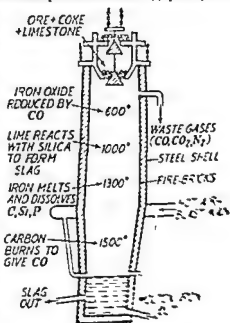

FIG. 58.1—Blast furnace for iron and steel.
(3) **Smelting in a Blast furnace.** Blast furnace used is a chimney-like structure made of iron plates lined inside with fire-bricks (Fig. 58.1). It is about 90 feet high with a maximum diameter of about 25 feet and is provided at the top with a cup and cone arrangement. Thus charge can be fed at the top while no gases escape from inside.